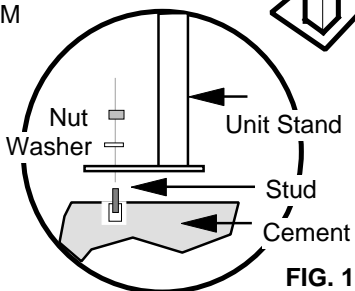

FIG. 1
1. Unit BOTTOM see FIG. 1 for pad attachment detail.